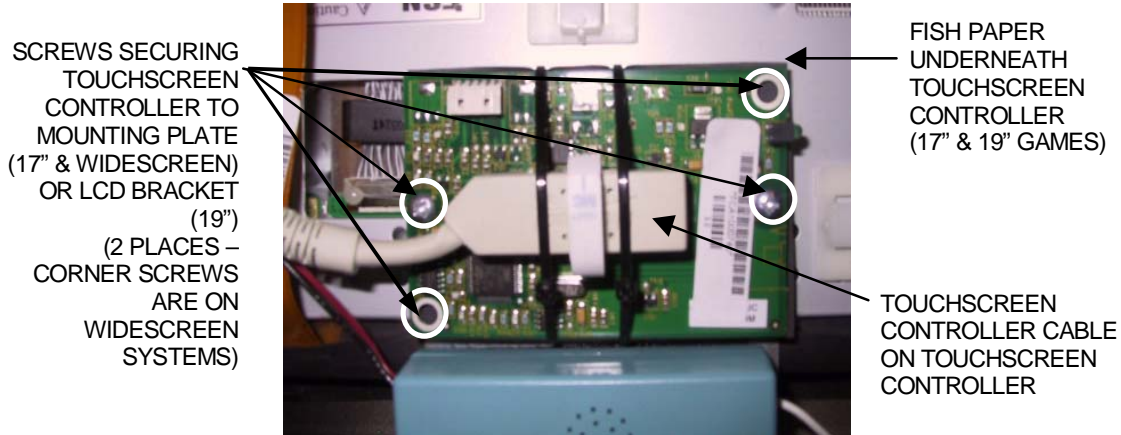

FIGURE 7 - TOUCHSCREEN CONTROLLER
11. Carefully cut the tie wraps around the touchscreen controller cable. If applicable, remove the 2 screws securing the touchscreen controller to its mounting plate (17" and Widescreen) or the LCD bracket (19"). On some 19" games the touchscreen controller is simply secured by Velcro, meaning there are no screws to remove. Remove the controller, as well as the fish paper underneath, though please note there is no fishpaper underneath the touchscreen controller on Widescreen systems. See Figure 7.